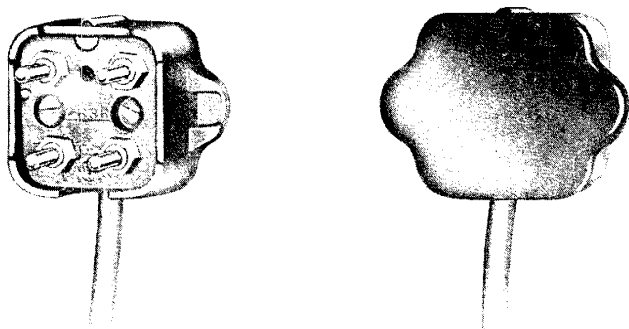

Fig. 8—283B (MD) Plug
2.09 The 283B(MD) plug (Fig. 8) is a 2-piece, 4-contact plug of molded plastic in colors to match telephone set colors as shown in Table B. The mounting cord is secured by either a wing band inserted into a slot in the cover or an S hook or flat eyelet stay band secured with a self-tapping screw packed with the plug.